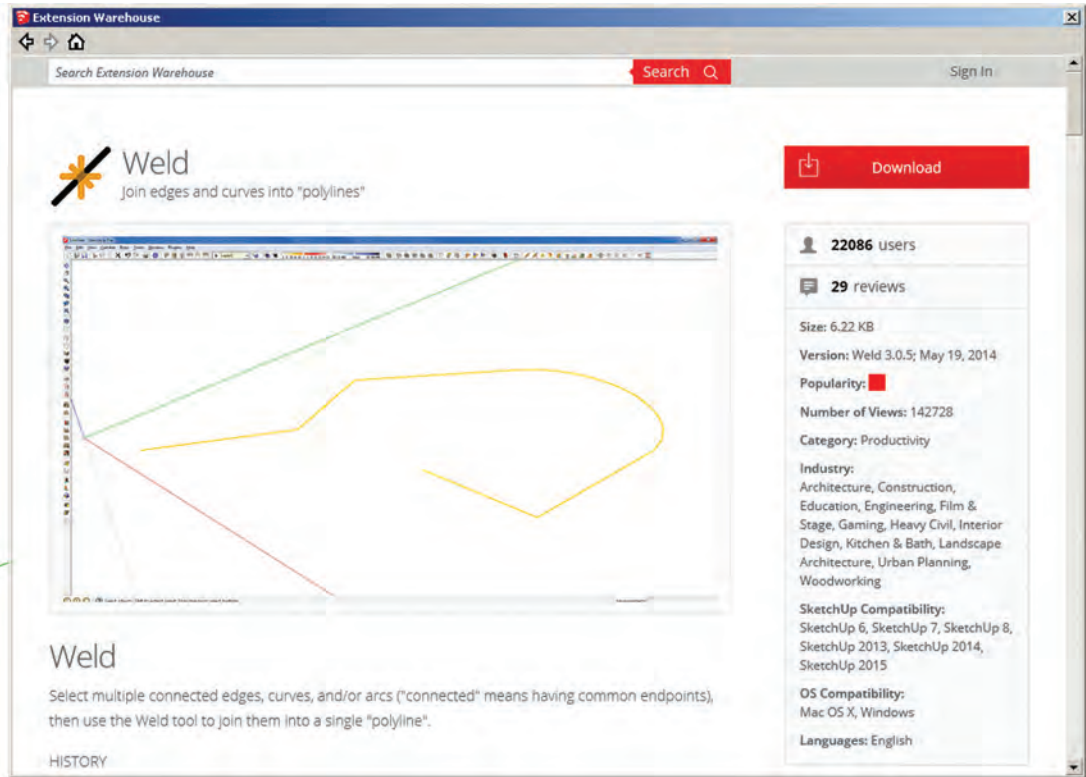

Fig. 5-7: The Weld page on the Extension Warehouse
6. Select Weld. This will take you to the Weld installation page (Fig. 5-7).